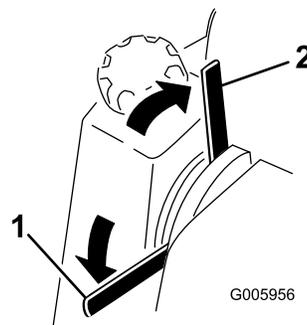

Figure 17
1. Move the parking brake lever to the On position (Figure 17).